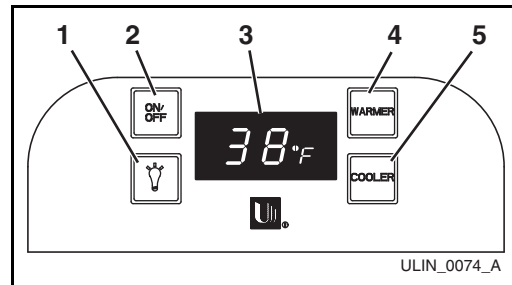

Figure 4
The LIGHT button (Figure 4, 1) on the control panel is used to change the lighting functions.
1. Press and hold the LIGHT button (Figure 4, 1) for ten seconds and release (the °F symbol will flash briefly at the end of the ten second period).
2. The interior light and control display (Figure 4, 3) will go dark for the next 36 hours.
1. Press and release the LIGHT button (Figure 4, 1) to switch from door-operated lighting control to the timed four hour lighting period (the °F symbol will flash briefly after the LIGHT button is pressed).